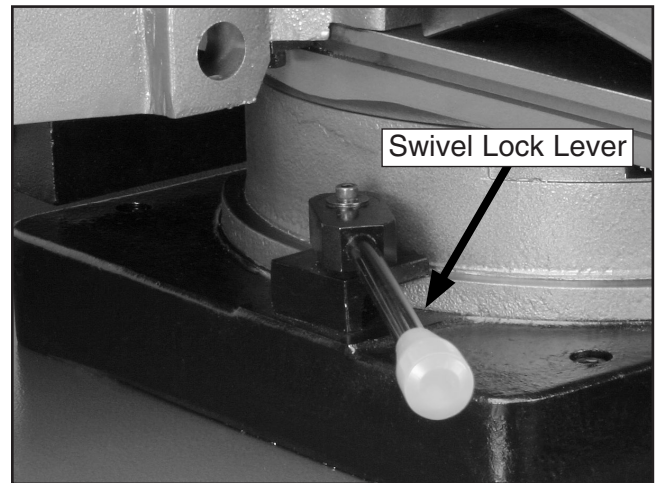

Figure 20. Swivel lock lever.
3. Loosen the swivel lock lever (**Figure 20**), rotate the turret to the desired angle, then re-tighten the swivel lock lever.